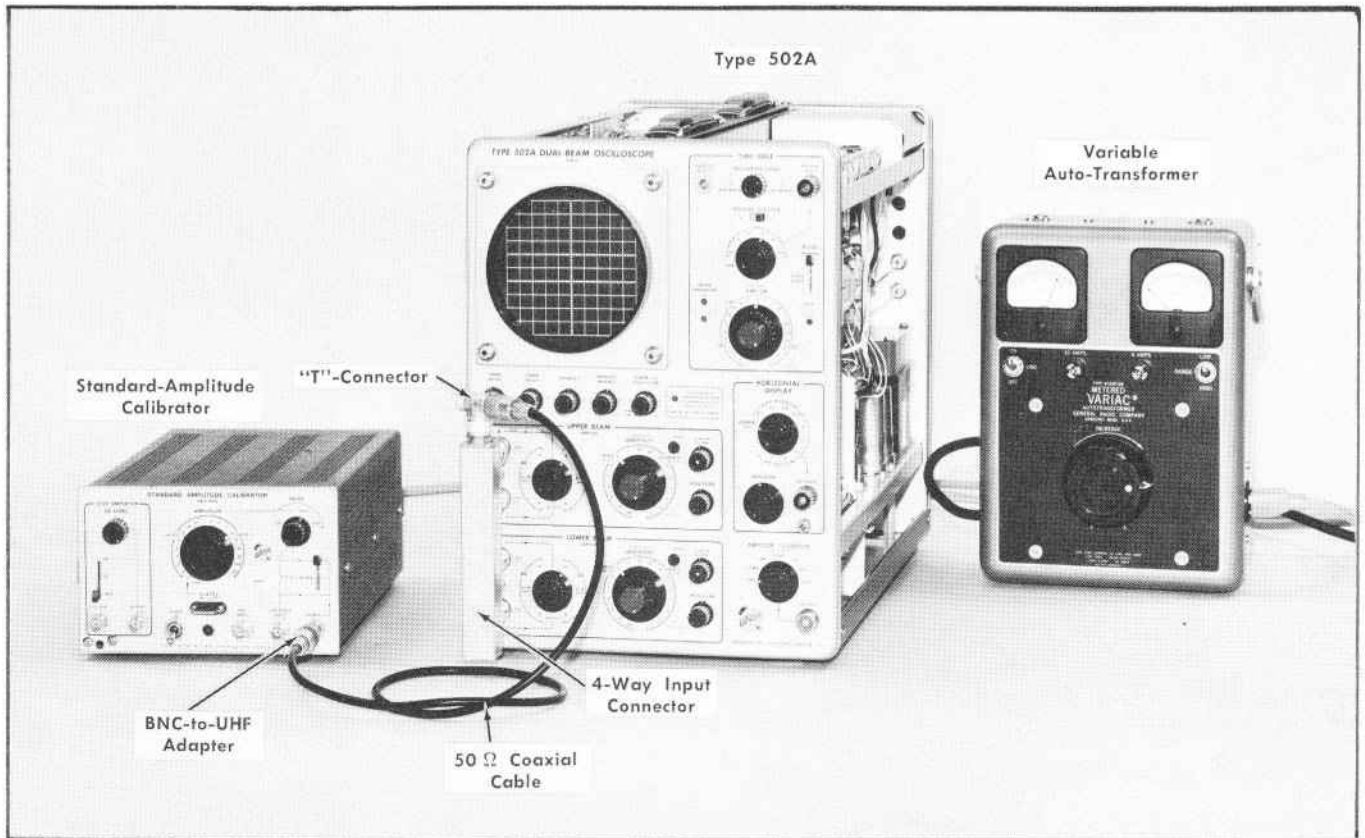

Fig. 6-19. Test equipment setup for steps 19 through 25.
- a. Set up the equipment as shown in Fig. 6-19.